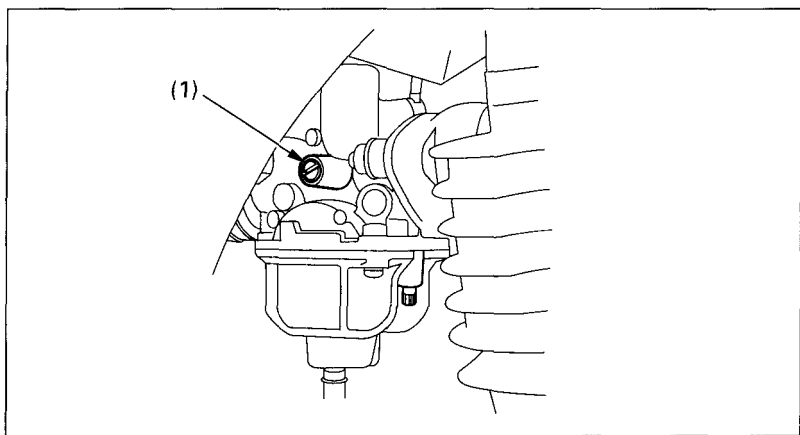

Fig. 4-9
2. Adjust idle speed by turning the throttle stop screw (Fig. 4-9).